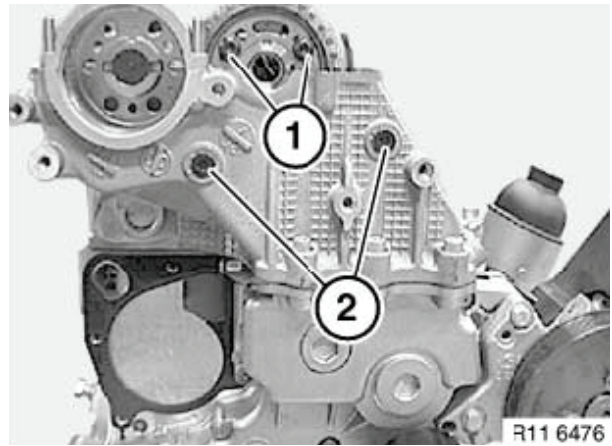

Figure 5-96
14. **NOTICE: NEVER remove the camshaft sprocket screws without first locking the chain tensioner in the released position.** Remove two remaining screws (**Figure 5-96, (1)**).
15. Remove two guide rail bearing pins (**Figure 5-96, (2)**).